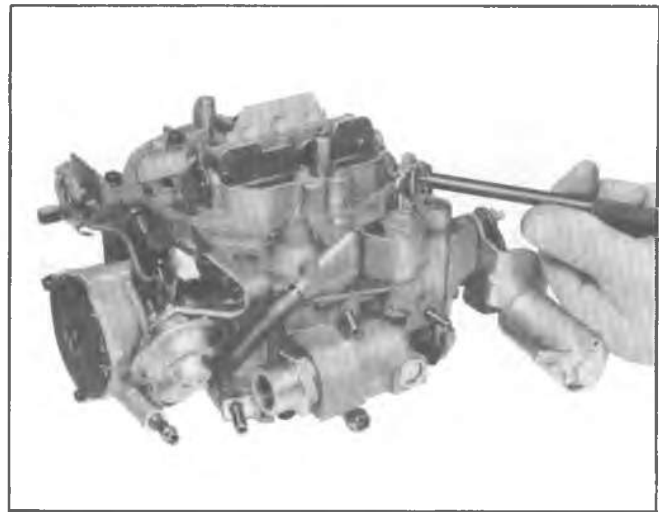

Fig. 6C-38--Removing Pump Lever
8. Remove aneroid cavity insert from float bowl. (Fig. 6C-46).